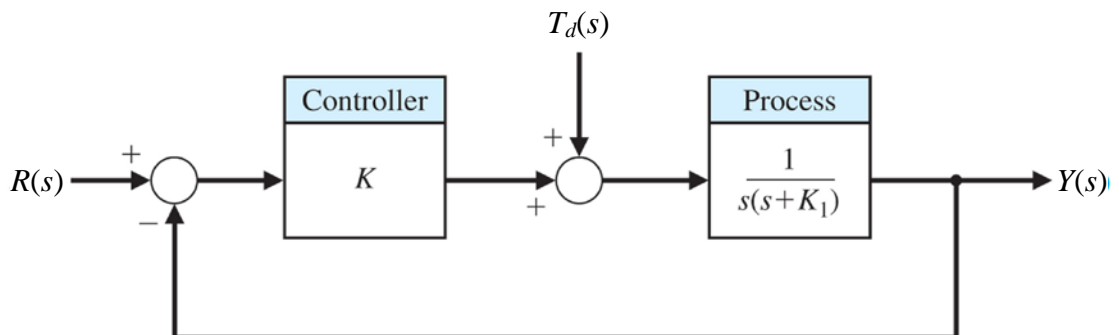

Figure Q2
- Q2. Consider the unity feedback system shown in Figure Q2. The system has two parameters, the controller gain K and the constant K_1 in the process.